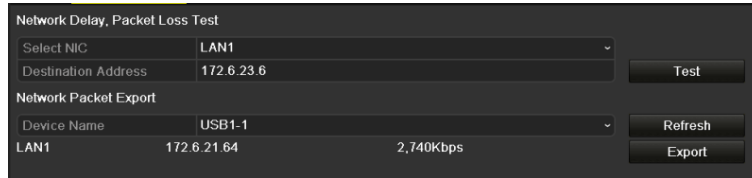

Figure 12-33 Export Network Packet
Step 3 Select the backup device from the dropdown list of Device Name, as shown in Figure 12-33.